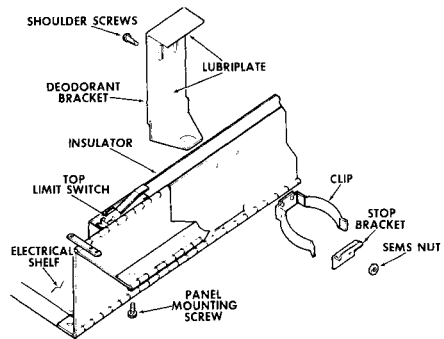

Figure 20 - Automatic Spray Parts
6. Refer to figure 20 and remove two screws and nuts mounting top limit switch.